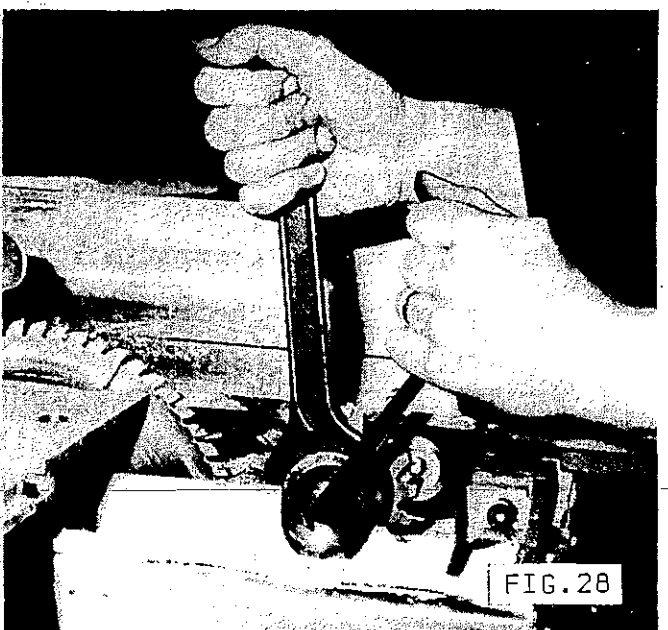

FIG. 28
- 6) Fit scoring saw with teeth pointing towards rear of machine FIG.28.